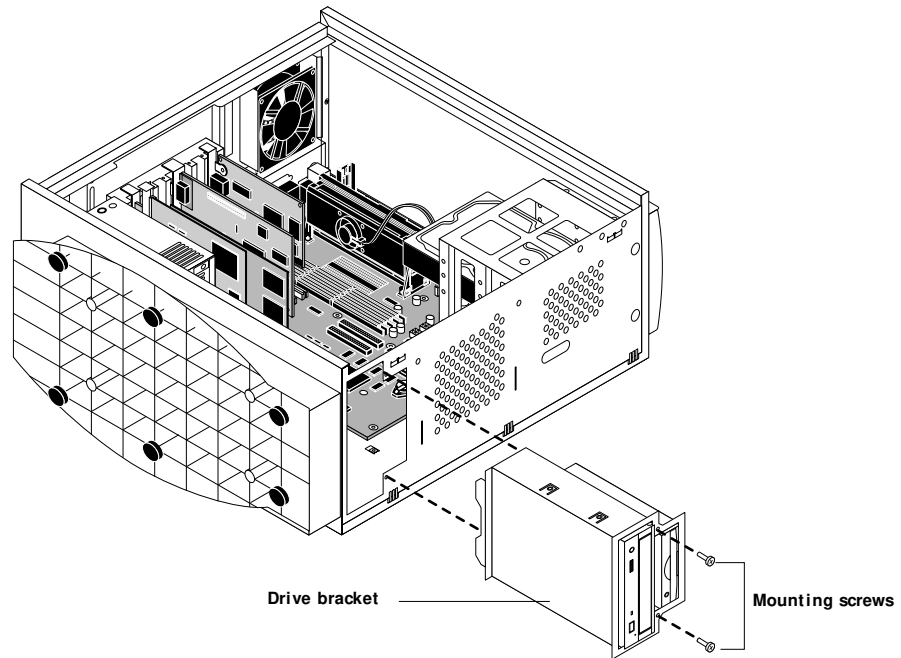

FIGURE 4-33 Removing/replacing the drive bracket
4. Remove the two screws on the front of the tray (see Figure 4-33). These screws secure the bracket to the tray.
4. Replace the two screws on the front of the tray that secure the drive bracket to the tray (see Figure 4-33).